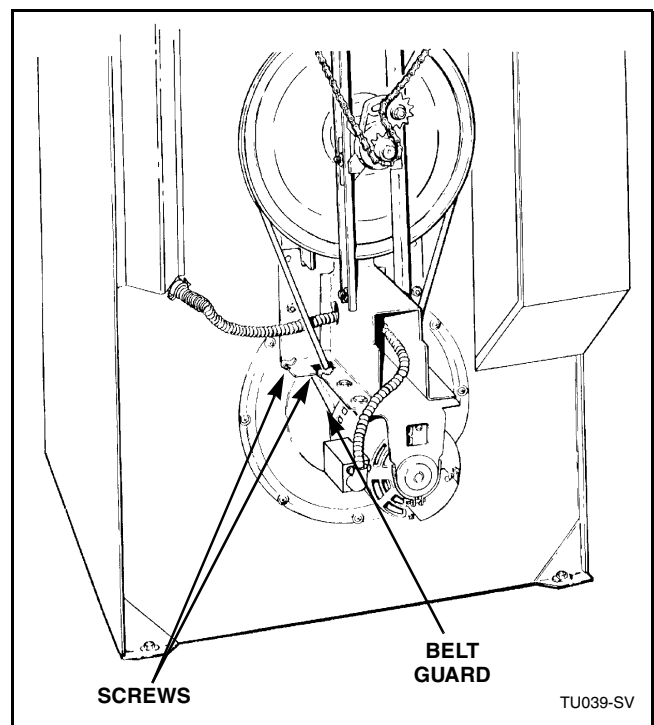

Figure 29
- b. Remove two screws holding belt guard assembly to motor bracket. Remove belt guard. Refer to *Figure 29*.
- b. Remove two screws holding belt guard assembly to motor bracket. Refer to *Figure 29*. Remove belt guard.